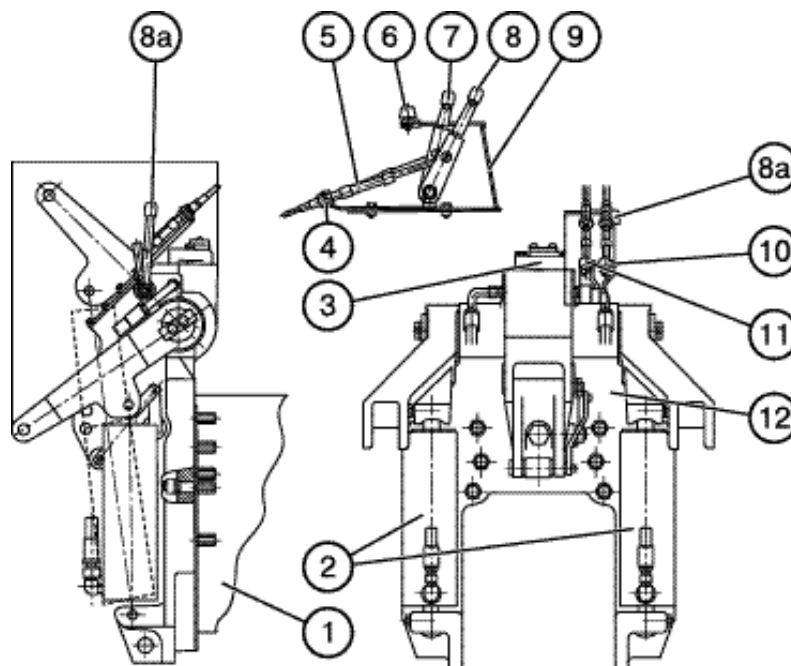
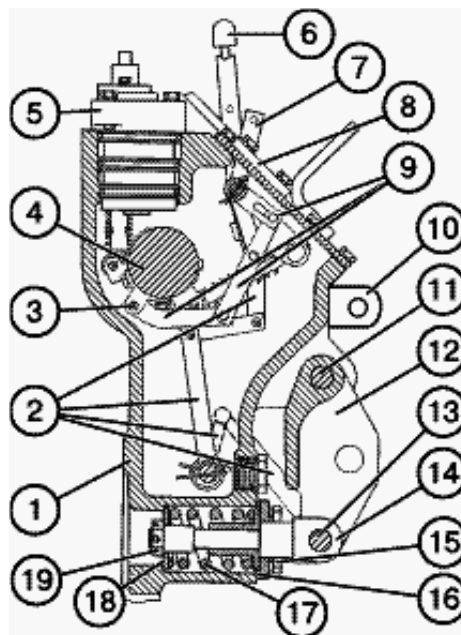

Fig. E-29. Hydraulic power lift of the HLL (monoblock):
Fig. E-30. Hydraulic power lift construction:
The **operating controls** of the hydraulic system (7), (8) (Fig. E-29) are located in the tractor cab, with the exception of the pump engagement handle (the design is
left unchanged) and additional position control handle (8a) (Fig. E-29) located on the rear of the tractor on the hydraulic power lift.
- 1 – rear axle casing; 2 – power ram cylinders; 3 – regulator-distributor; 4 – brackets; 5 – position (10) and draft (11) lever control ropes; 6 – adjustable RHL travel limiter; 7 – draft control handle; 8 – position control handle; 8a – additional position control handle; 9 – right-hand side control panel; 10 – position lever; 11 – draft lever; 12 – casing.
The **draft control handle** (7) (Fig. E-29) is located on the right-hand control panel (9), the first from the operator's seat. The operational range of the handle positions is marked with digits from 1 to 9 that corresponds to the entire span of ploughing depths from minimal to maximal ones, respectively.
The **position control handle** (8) (Fig. E-29) is located next to the draft control handle (7). Its operating range is marked with the same digits which cover RHL positions from the upper transport position down to the lowermost position, respectively.
The **additional position control handle** (8a) (Fig. E-29) is located on the rear of the tractor on the hydraulic power lift. Pulling this handle towards the operator standing behind the tractor and looking along the tractor forward travel lifts the RHL and pushing the same from the operator lowers the RHL.
Hydraulic Power Lift (Fig. E-29, E-30)
The hydraulic power lift (Fig. E-29) is installed on studs, on the rear wall of the rear axle casing (1) and consists of a control unit and a regulator-distributor (3) built
When the position control is used, the draft handle (7) (Fig. E-30) should be shifted to its foremost position, in the direction of the tractor forward travel. Further control of the hitch linkage is achieved by means of the position lever (6) (Fig. E-30) and handle (7) via ropes (5) (Fig. E-29). When moving the lever (6) backward, the hitch linkage is lifted and then moving the lever (6) forward, the hitch linkage is lowered. This adjusting process is performed by means of the regulator-distributor built in the monoblock (1) and controlled by means of the position sensor (3).
Using the position control handle (8) (8) (Fig. E-29) for limiting the ploughing depth when operating in the draft control mode makes it possible to achieve the **combination adjustment**.